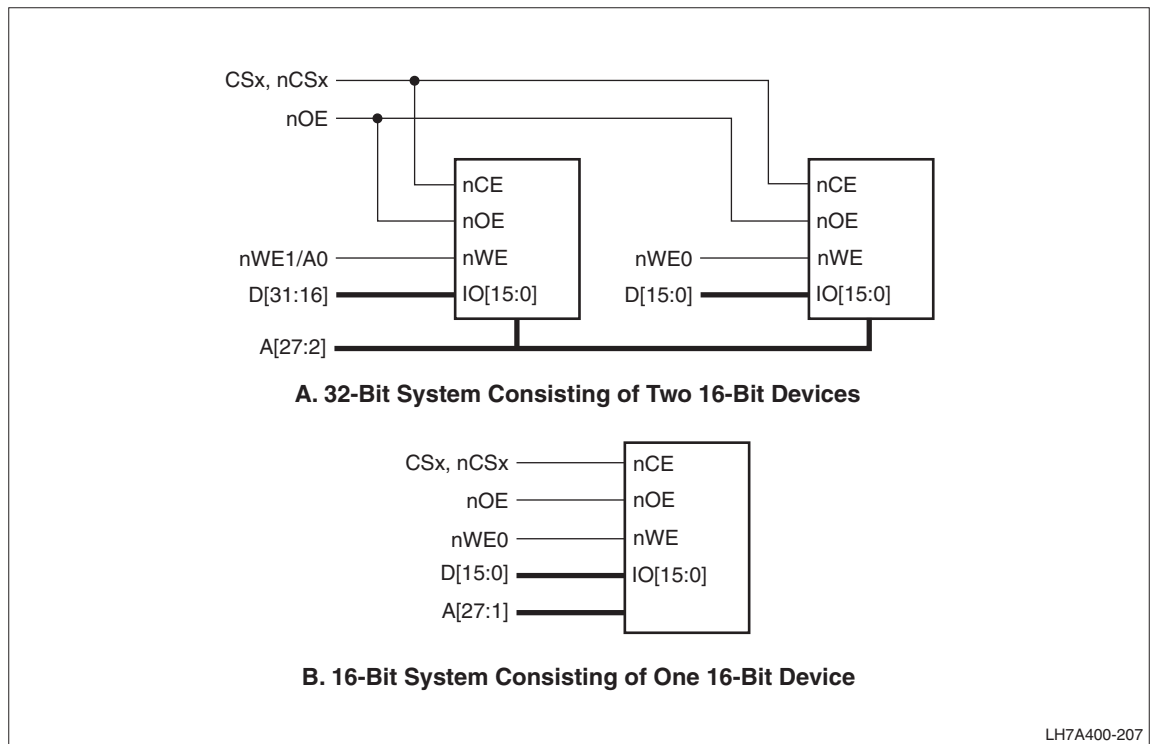

Figure 4-7. Memory Banks Constructed from 16-bit Memory
Memory systems using 16-bit devices can be configured for byte (8 bits), half-word (16 bits), or word (32 bits) accesses by the LH7A400. In the sections that follow, examples illustrate pin connection and register programming for each possible configuration with 16-bit devices. Figure 4-7 shows 16-bit-wide memory devices connected to the LH7A400 in two different width bank configurations.
Design of a half-word-wide bank with 16-bit devices is straight forward. Refer to Figure 4-7, part B for this example. This example will configure the LH7A400 for 16-bit external accesses to Bank 0, and requires one 16-bit device per half word.
The signal connection between the LH7A400 and the memory devices, as shown in Figure 4-7, part B, is:
**NOTE:** Figure 4-7 and its accompanying text describe the general case of a fixed, 16-bit data bus. Some devices have configurable-width data buses, for example the NXP Multi-Level Cell (MLC) Flash memories. These MLC devices can be configured for either 8-bit or 16-bit data buses. Because of this, the MLC device's A0 address is a byte address, used only when configured for an 8-bit data bus. When using it configured as a 16-bit device, the LH7A400 address bus is connected in a one-to-one mapping (that is, A1 on the LH7A400 to A1 on the MLC Flash; A2 to A2 and so on). Thus, when configured as a 16-bit device, A0 on the device is not connected since all data accesses are on 16-bit address boundaries. Other data-bus-configurable devices may also exist that require connection of the LH7A400 address bus in a different mapping than the general case. Connection must be determined by studying the particular device's data sheet.
When using 16-bit devices for a word-wide bank, additional parameters must be considered. Refer to Figure 4-7, part A for this example. This example will configure the LH7A400 for 32-bit external accesses to Bank 0, and requires two 16-bit devices per word.
The signal connection between the LH7A400 and the memory devices, as shown in Figure 4-7, part A, is: